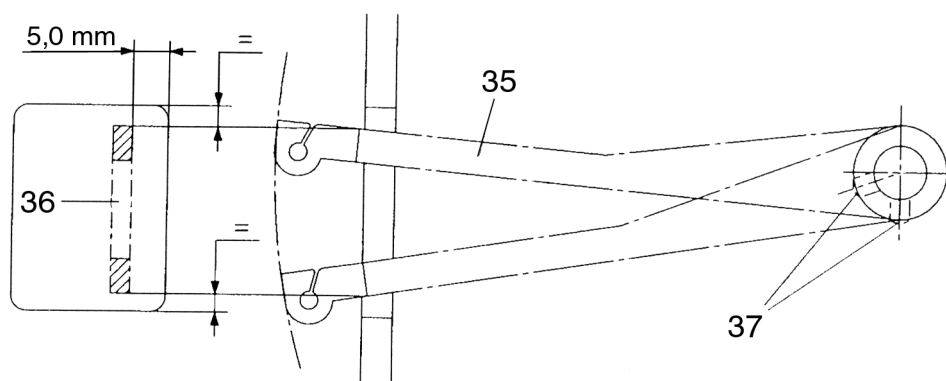

Fig. 49
The looper thread guide 35 must also be set so that the upper and lower clearance of the looper thread guide 35 to the aperture on the housing are equal (fig. 49).
- Push the looper thread guide until the looper thread guide is set as shown in fig. 49.